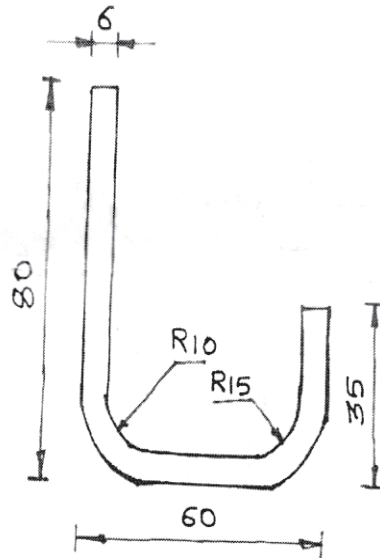

Figure No.2
- b) Calculate developed length of the part as shown in figure no. 2 [6]